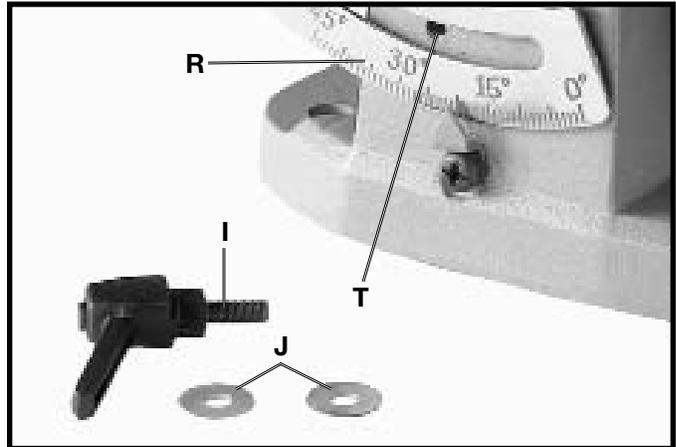

Fig. 7
4. Position flat washers (J) Fig. 7, on inside and outside of tilt scale (R) and thread end of table lock handle (I) into hole (T).